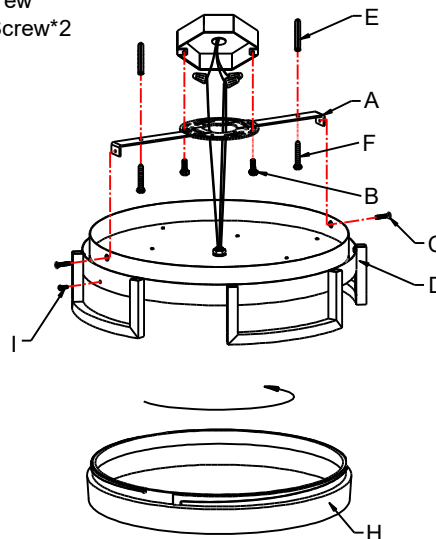

Fig. 2
CONNECTING THE WIRES (Fig.2)
8. Connect the electrical wires as shown in Fig. 2, making sure that all wire connectors are secured. If your outlet has a ground wire (green or bare copper), connect the fixtures ground wire to it. Otherwise, connect the fixture ground wire directly to the mounting plate (A) using the green screw provided. After wires are connected, tuck them carefully inside the junction box.